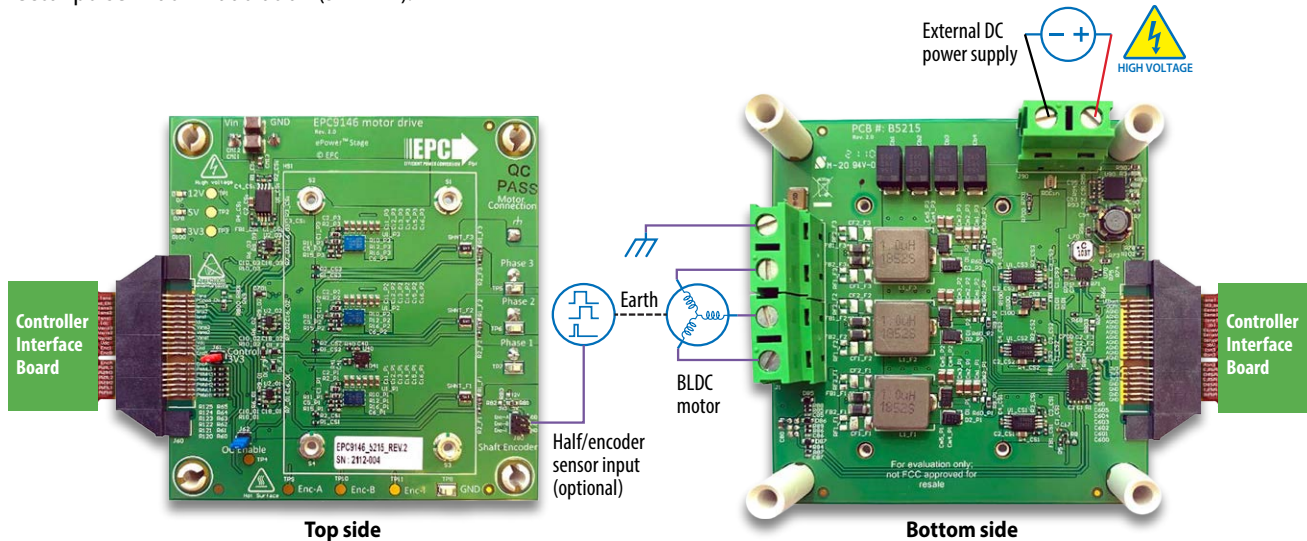

Figure 4: Connection diagram of the EPC9146 configured as a motor drive inverter
A 3-phase BLDC motor drive inverter is the primary application case for which the EPC9146 board was designed for and can be used for either sensor-less or shaft encoder sensor configurations. The motor drive controller options are given in table 2 giving the user various mainstream choices that leverage existing resources to simplify and speed up development and evaluation. Figure 4 shows the simplicity of connecting a controller and motor to the EPC9146. **In the default configuration, the EPC9146 is paired with the EPC9147A that is preprogrammed to power and control a NEMA 34 size motor from Teknic M-3411P-LN-08D, with DC supply voltage of 48 V using sensor-less field orientation control with space vector pulse width modulation (SVPWM).**
2. Connect the correct motor, whose parameters are programmed into the controller, to the EPC9146 at connector J1 and the DC power supply at connector J90 (**Note the polarity**) and shown in figure 4.